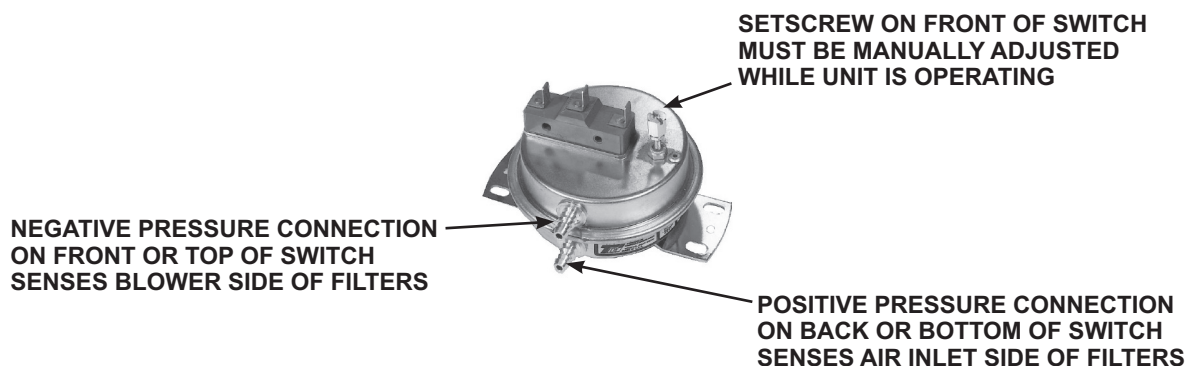

Figure 26. Dirty Filter Switch
1. With clean filters in place, blower doors closed, and blower operating, decrease pressure setting by adjusting setscrew on switch (see **Figure 26**) clockwise until indicator light is energized or setscrew is bottomed out.